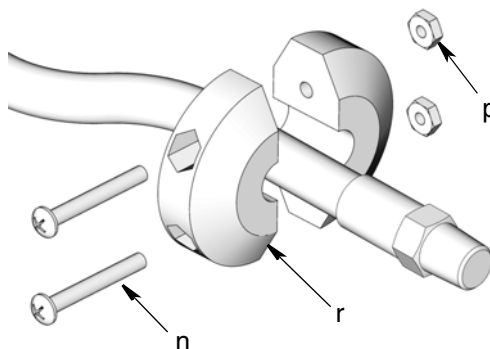

FIG. 16
4. Reinstall ball stop (r) on hose and hand tighten screws (n) and nuts (p) to hold ball stop securely in place (FIG. 16).